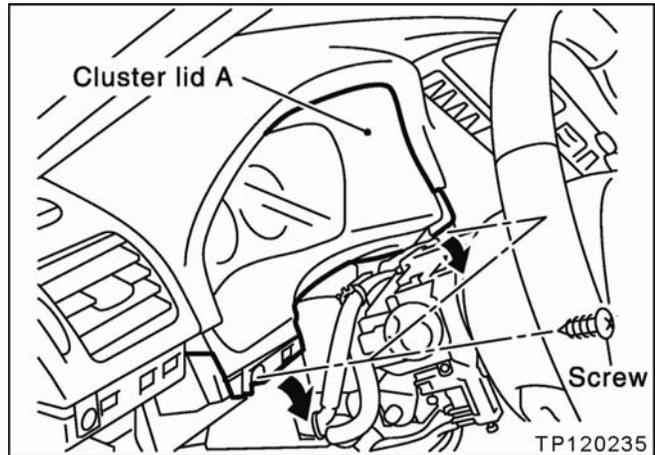

Figure 4
9. Remove cluster lid A (see Figures 4 and 5).